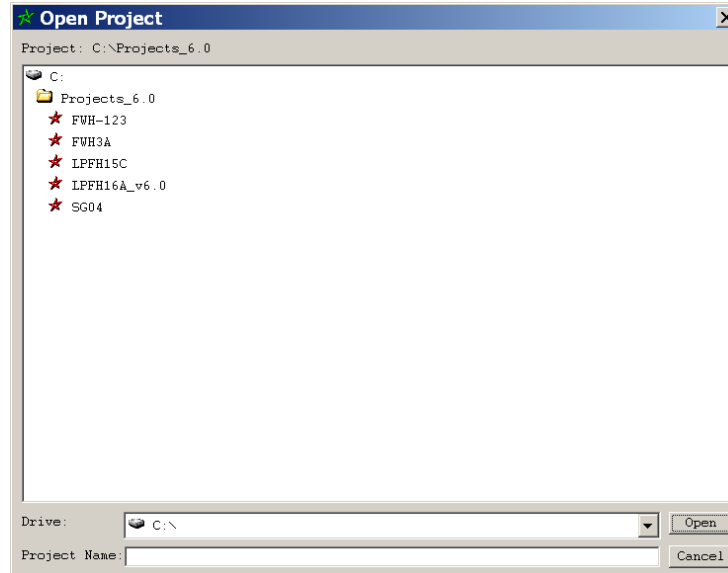

Figure 4. File | Open Project Dialog
- **File | Open Project** displays the **Open Project** dialog shown in Figure 4. Simply select the desired project file from those listed and click the **Open** button. Alternatively, you may simply double-click a file name as with any other Windows program. Afterwards, the program opens the project and displays the tubesheet map (*project.cmp*) in the working area of the main window.